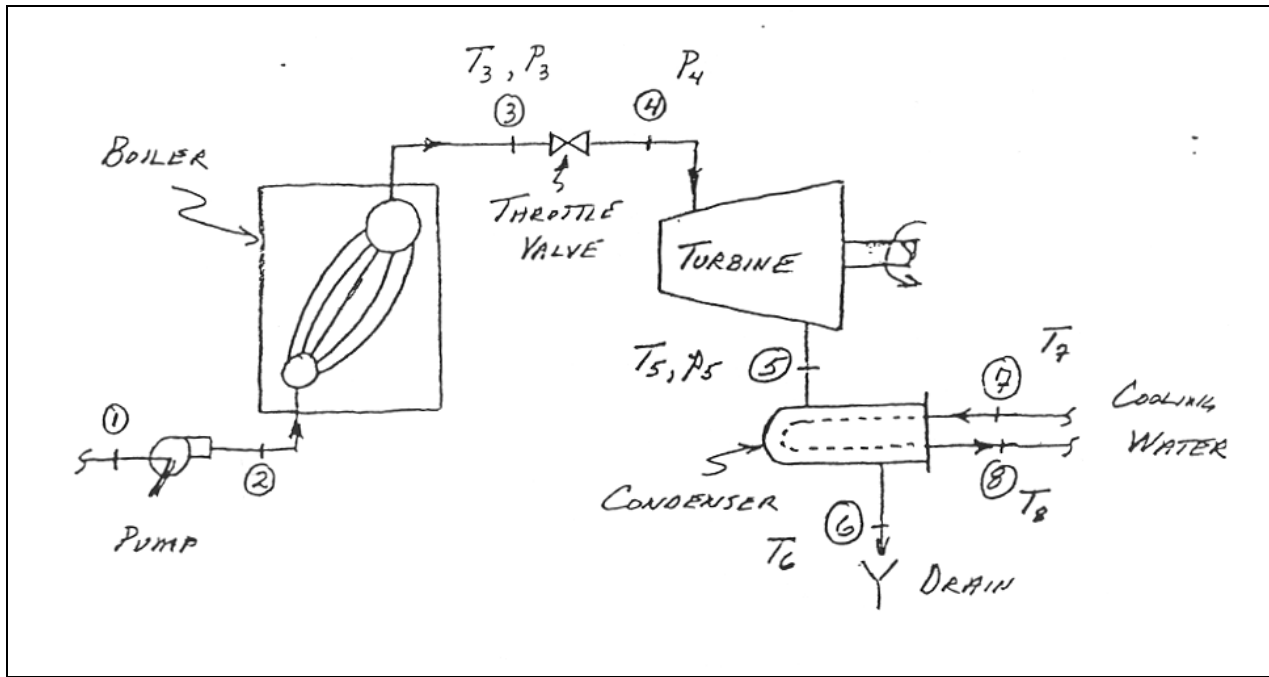
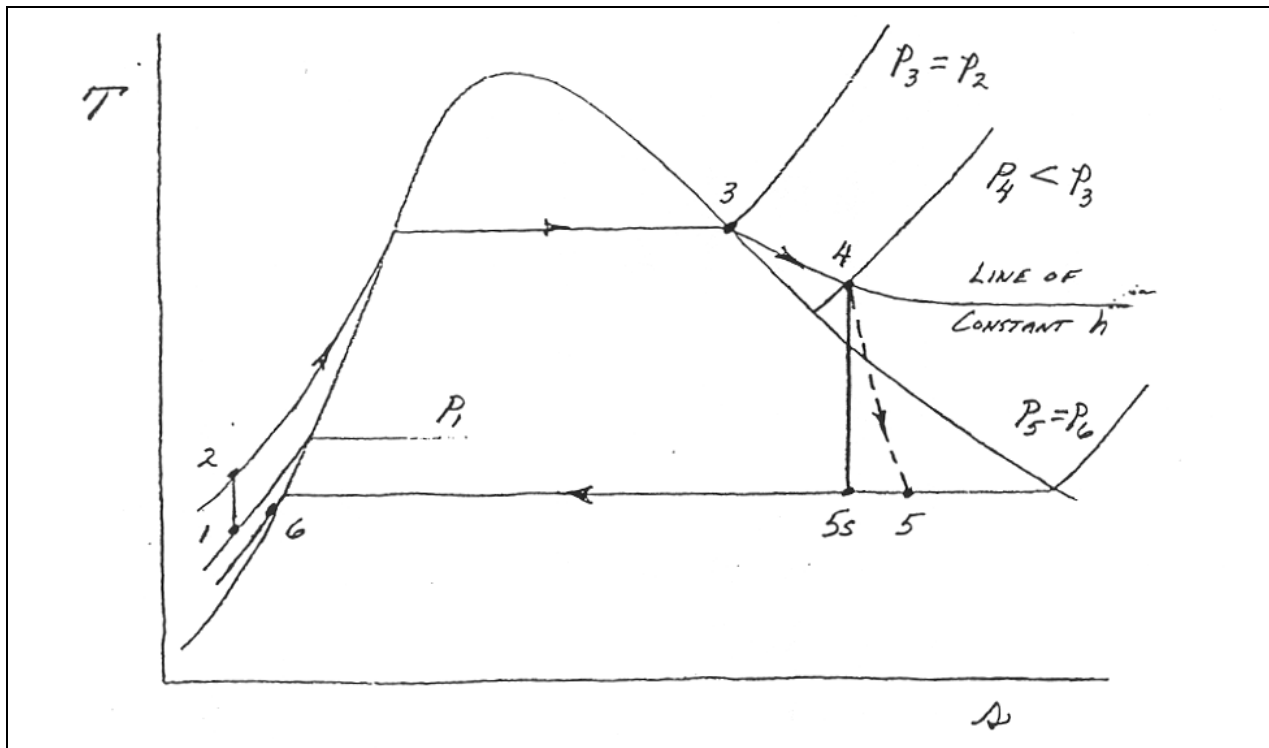

Figure 1 - Schematic of the Steam Boiler / Turbine System
Figure 2 - Process T-s Diagram for Steam Boiler / Turbine System
A schematic diagram showing the major components of the steam boiler and turbine system is presented in Figure 1. The corresponding states and processes are shown on a temperature-entropy (T-s) process diagram in Figure 2. A detailed description of the individual states and connecting processes is provided in Figure 3. A piping and instrumentation diagram for steam turbine installation in Room DL-205 is presented in Figure 4. This diagram begins with State 3, the outlet of the Boiler / Steam Line / Separator process, and shows almost all of the piping and instrumentation.
(See Fig. 1 for Schematic Diagram)
(See Fig. 1 for Schematic and Fig. 2 for T-s Diagram)
1. Review and explore the steam turbine installation and instrumentation. Refer to the background section of this laboratory, especially Figures 1, 2, 3 and 4.